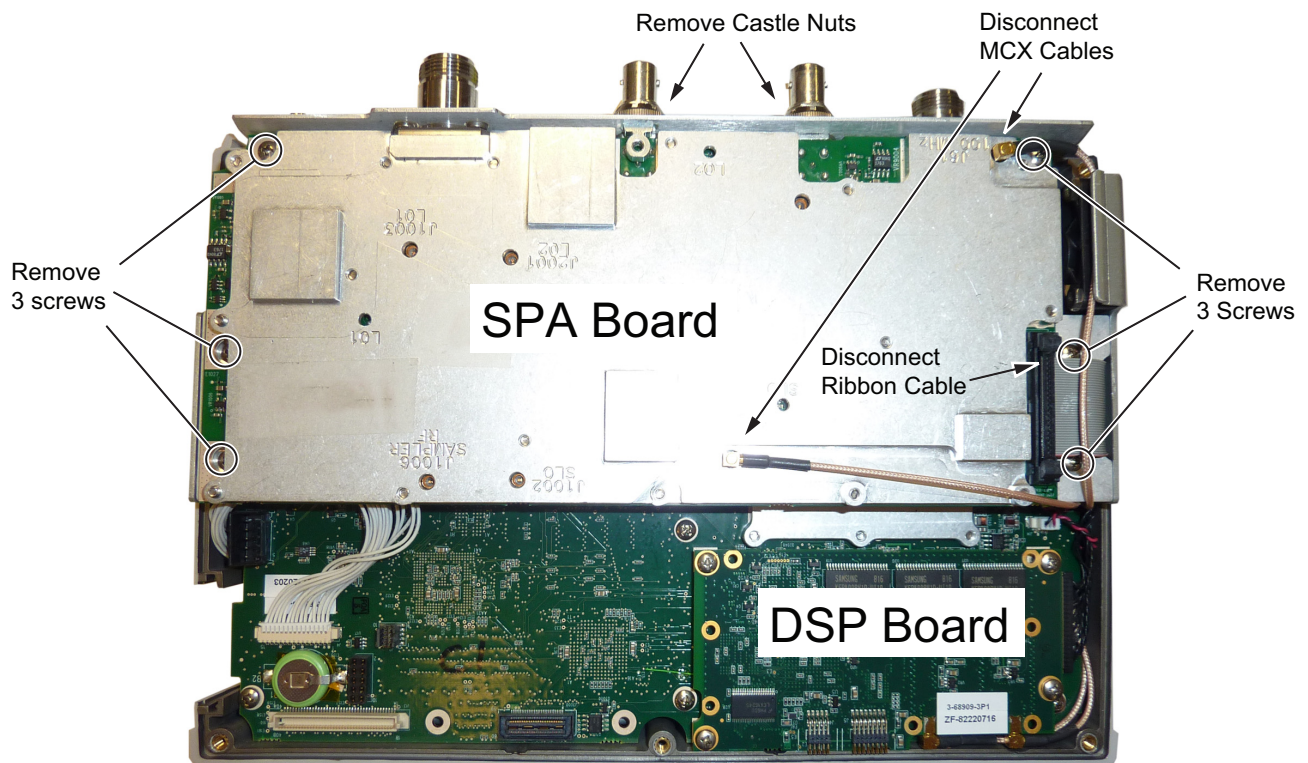

Figure 5-6. Removing the SPA Assembly
3. Remove the castle nuts from the External Reference connector and the External Trigger connector (Figure 5-6).
The MMCX cable attached to SPA connector J61 (100 MHz) is shown passing above the SPA PCB ribbon cable. It must be routed under the ribbon cable, not as shown in Figure 5-6.